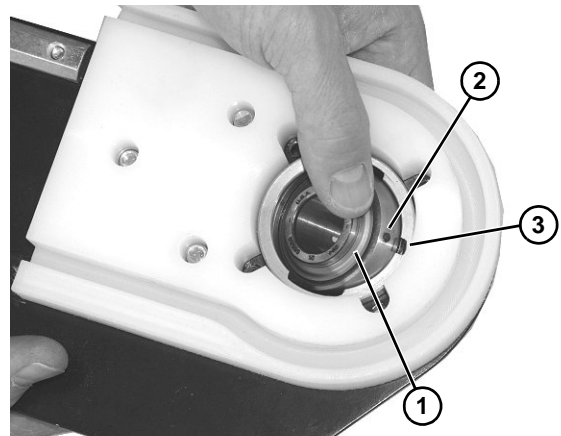

Figure 70
2. Insert bearing (**Figure 70, item 1**) into housing slot: Locate anti-rotation nub (**Figure 70, item 2**) to align with slot (**Figure 70, item 3**), and twist bearing into housing.